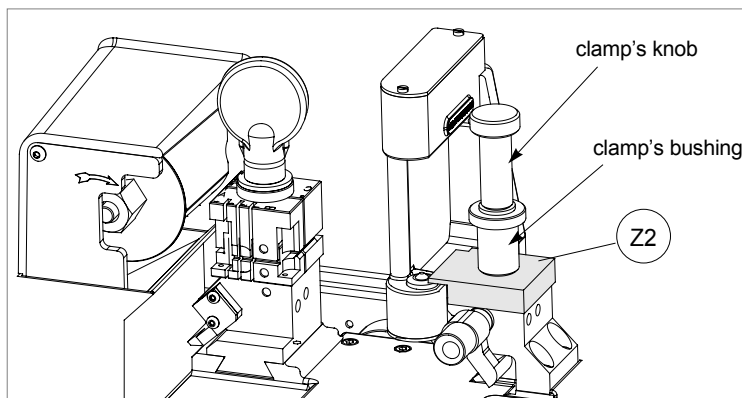

Fig. 39
- 5) install the (Z2) template, the clamp's bushing and secure them with the clamp's knob (fig. 39).